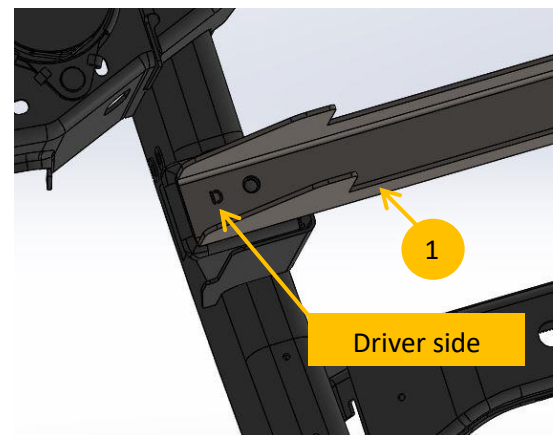

Figure 2
2. Line up drilled holes in the vehicle bed risers with the holes in the front level lok tube (**ITEM 1**) and insert a 5/8" x 1-3/4" (**ITEM 6**) into each hole of the level lok tube. Install one (1) reinforcing plate (**ITEM 5**) and one 5/8" nyloc nut (**ITEM 7**) onto the installed bolts and tighten. **Figures 2 & 3**